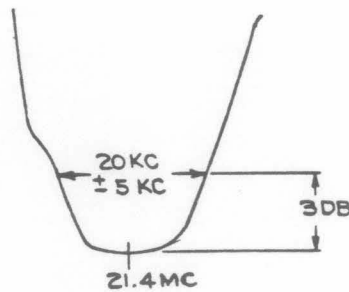

Figure 5-12. Type 901 Receiver, Typical Response Curve, V601 to V602 Interstage Alignment, 20-kc Bandwidth
- (2) Set audio generator output to 5 cps.
- (3) Set oscilloscope vertical sensitivity to 50 mv per cm.
- (4) Set Boonton 202E output to 171.4 mc.
- (5) Set Boonton Univerter dial at 0 KC.
- (6) Adjust sweep width by setting FM deviation to approximately 60 kc.
- (7) Set receiver BANDWIDTH switch to 20 KC position.
- (8) Adjust L603 and L604 of receiver for a symmetrical response curve centered at 21.4 mc, on oscilloscope screen, as shown in Figure 5-12.
- (9) Adjust Hewlett-Packard 606A output for use as a 21.4-mc marker with marker output level such that marker barely appears on response curve.
- (10) Check bandwidth by tuning Boonton Univerter dial so that response curve moves across oscilloscope screen. Bandwidth will be the frequency difference read from dial when 3-db curve points intersect 21.4-mc marker line, as shown in Figure 5-12.